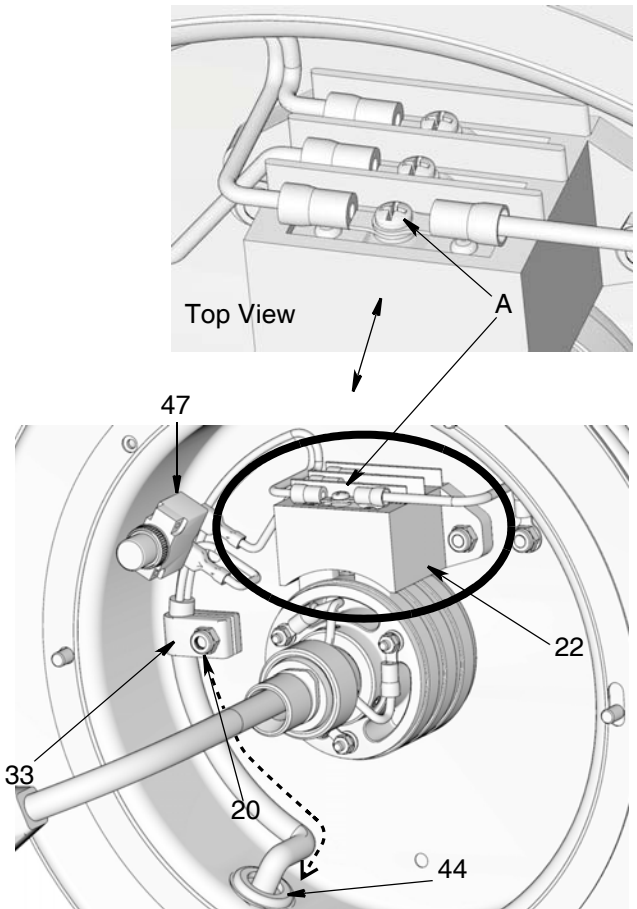

FIG. 7
10. Loosen three phillips screws (A) on slip ring brush bracket (22) (FIG. 7).
11. Remove wires from slip ring brush bracket (22) (FIG. 7).
13. Loosen 10 mm hex nut (20) to relieve tension on cord clamp (33) (FIG. 7).
14. Pull cord back through the grommet (44) in the spool side (FIG. 7).
1. Route new cord (101a) through grommet (44) and cord clamp (33). Tighten 10 mm hex nut to 6 in-lbs (3 N.m) on cord clamp (33) to hold the cord in place securely (FIG. 7, page 13).